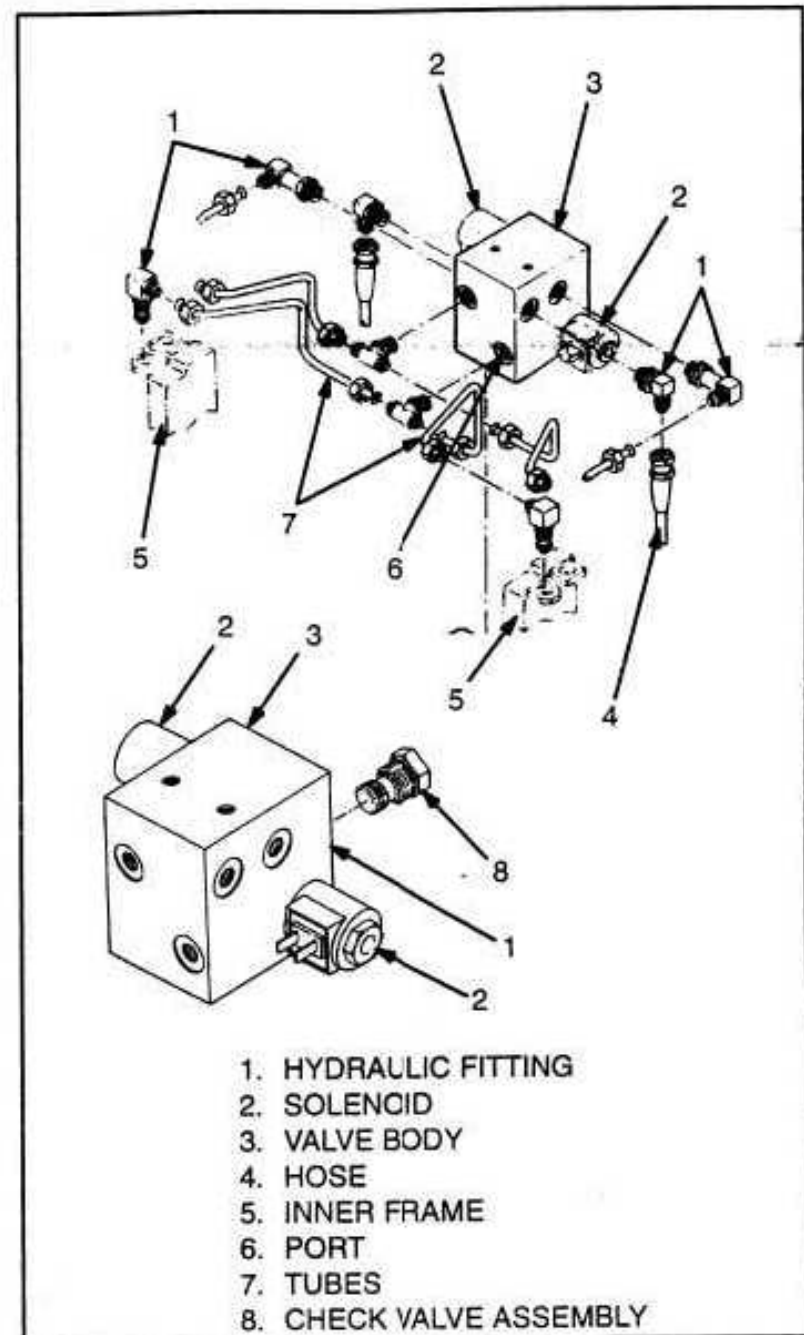

Figure 8-38 – Reach/Tilt Selector Valve
1. Remove all fittings from the selector valve. See Figure 8-38.
2. Install the parts in the valve block as shown in Figure 8-38.
2. Connect the hydraulic lines as marked during disassembly. Always use new O-rings on the O-ring fittings. If necessary to connect the hydraulic lines, see Figure 8-38. Connect the electrical wires to the solenoids. Install new cable ties at the original locations for clearance of hoses and electrical cables during operation.